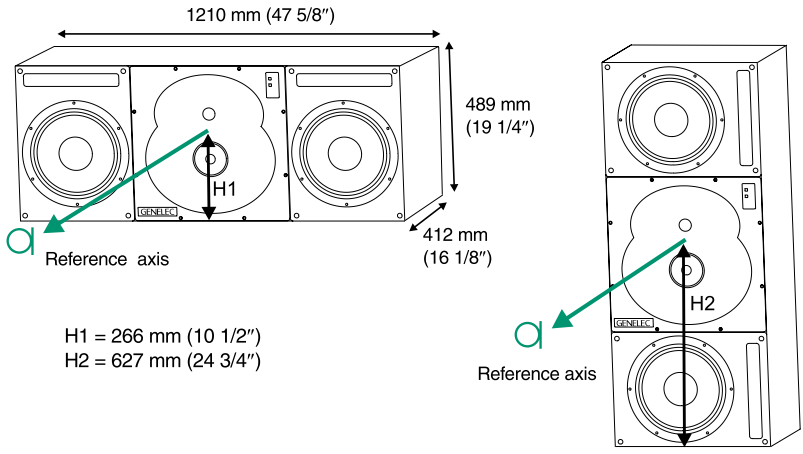

Fig 1. Location of the acoustic axis in horizontal and vertical configurations. Note the alignment of the DCW.
The Genelec HT324AC is shipped in a single box, containing a cabinet, an amplifier unit, a mains connecting cable, a LED connecting cable, a loudspeaker connecting cable and one Allen key. (See Fig 1)
The loudspeaker has its acoustical axis midway between the midrange and treble drivers. This axis should be used as the listening and measuring axis of the system. (See Fig 1)
- Set the microphone 1 m away from the loudspeaker on the acoustic axis. (See Fig 1)